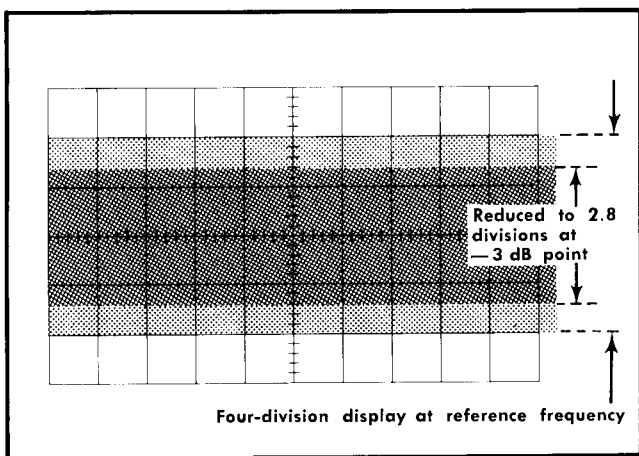

Fig. 6-29. Typical CRT display when checking vertical bandwidth.
e. Without changing the output amplitude, increase the output frequency of the generator until the display is reduced to 2.8 divisions (-3 dB point; see Fig. 6-29).
- d. Without changing the output amplitude, increase the output frequency of the generator until the deflection is reduced to 2.8 divisions (−3 dB point; see Fig. 6-29).
- j. Without changing the output amplitude, increase the output frequency of the generator until the deflection is reduced to 2.8 divisions (−3 dB point; see Fig. 6-29).
- e. Without changing the output amplitude, increase the output frequency of the generator until the deflection is reduced to 2.8 divisions (−3 dB point; see Fig. 6-29).
- k. Without changing the output amplitude, increase the output frequency of the generator until the deflection is reduced to 2.8 divisions (−3 dB point; see Fig. 6-29).
- d. Without changing the output amplitude, reduce the output frequency of the generator until the deflection is reduced to 2.8 divisions (−3 dB point; see Fig. 6-29).
- i. Without changing the output amplitude, reduce the output frequency of the generator until the deflection is reduced to 2.8 divisions (−3 dB point; see Fig. 6-29).